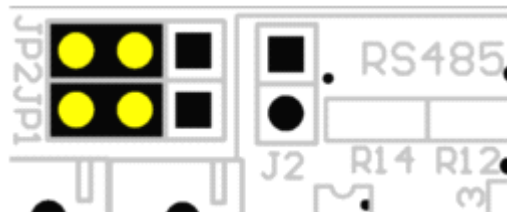

Figure 7-6
- ◆ The left one is 485 mode, close to JP1,JP2.as shown in figure 7-6.